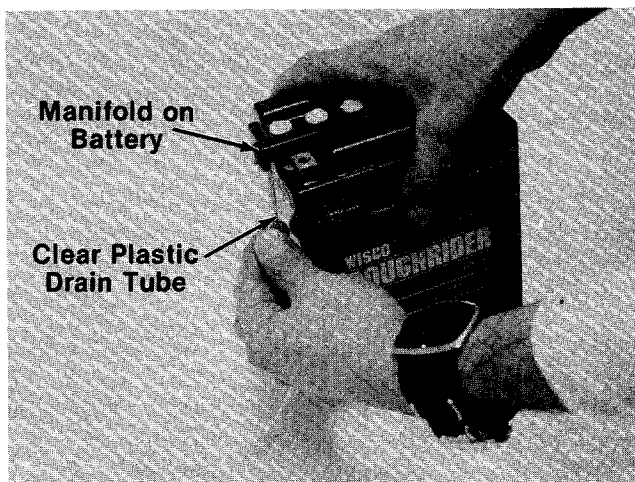

FIGURE 10.
3. Place one end of clear plastic drain tube on manifold of battery. See figure 10.